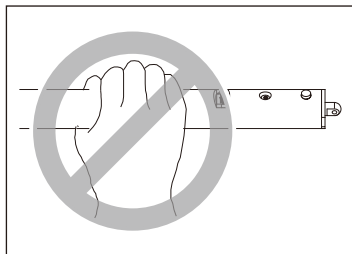

図4 Fig.4
有効長線上を握らないと正しいトルク値が得られません。(図4)
- Do not use without the extension handle. Unless operator grips an effective length line on the handle, the proper torque value is not acquired.(Fig.4)